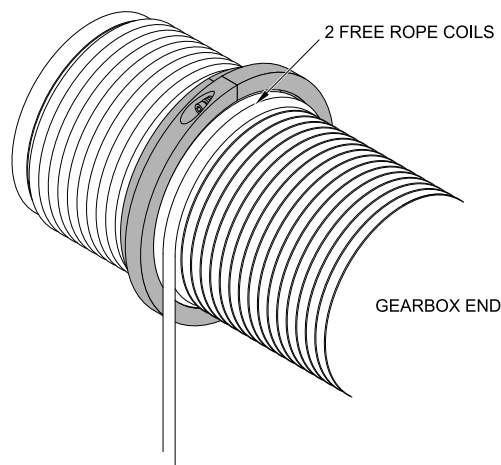

Figure 60 – Rope Guide Inner Band Fitted
- Position the inner band assembly over the rope such that 2 free rope coils remain unclamped and tighten the capscrew on the spring side 1.5Nm (see Figure 60).